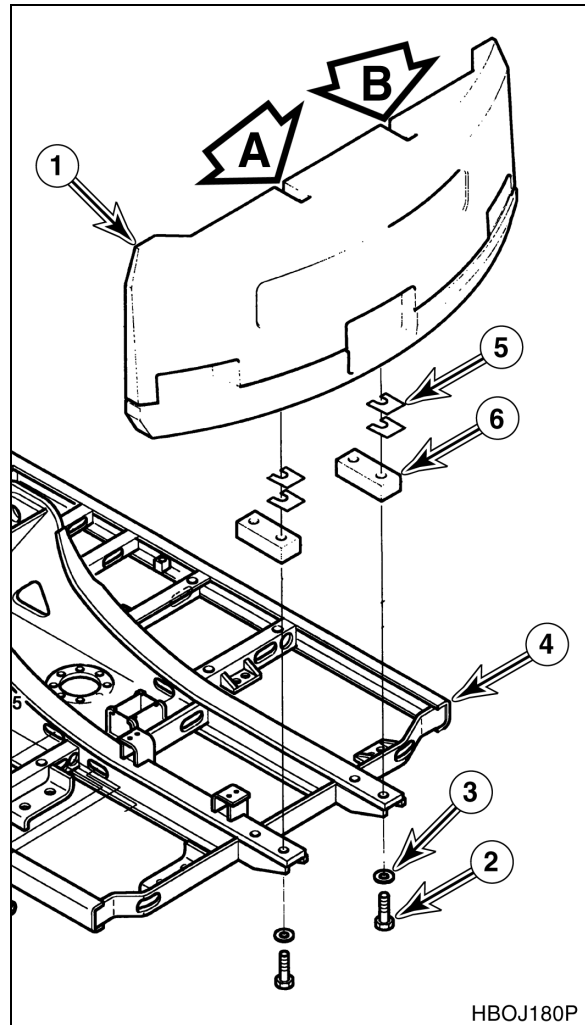

Figure 5
2. Set plates (6, Figure 5) (without shims) into position on frame (4).
3. Using suitable lifting device capable of handling 1,600 kg (3,527 lbs.), raise counterweight (1, Figure 5) into position just above support frame (4) and plates (6) leaving counterweight suspended. Verify that counterweight is level and even.
NOTE: Leave counterweight (1, Figure 5) suspended 3 mm (0.125") above support frame (4) until all four mounting holes on the counterweight, plates and the frame holes are aligned.
4. Install four bolts (4, Figure 5) with washers (5) into counterweight until washers contact support frame. Fully lower counterweight onto plates and support frame.
5. Using a feeler gauge, check for a gap between counterweight (1, Figure 5) and plates (6). Use an appropriate amount of shims (5) for each bolt location.
6. Remove four bolts (2, Figure 5) and washers (3).
7. Raise counterweight (1, Figure 5) so that shims (5) can be set into position on each plate (6).
8. Lower counterweight (1, Figure 5) until it is 3 mm (0.125") above the shims (5) and install four bolts and washers. Apply Loctite 242 to mounting bolt threads.
9. Fully lower counterweight (1, Figure 5) onto shims (5), plates (6) and support frame (4) and finish tightening bolts (5) to 115 kg•m (832 ft lbs).
10. Remove lifting device and lifting hooks from counterweight (1, Figure 5).